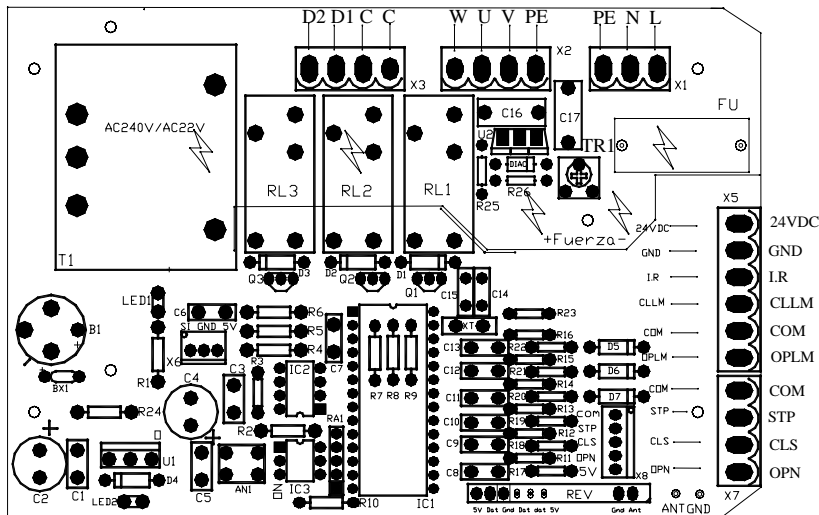

Fig.8
Remove the cover, perform the wiring (See Fig.8 and wiring notes for control board) and replace the cover again.
- Adding extra remote controls (Learn): Remove the cover, press the learn button 'AN1' (Fig.8), then the 'LED2' (Fig.8) will be on and turn off, then press the remote control button which you want to use, the 'LED2' will turn on about 2 seconds and then turn off again. The learning process is finished. Up to 25 remote controls may be used.